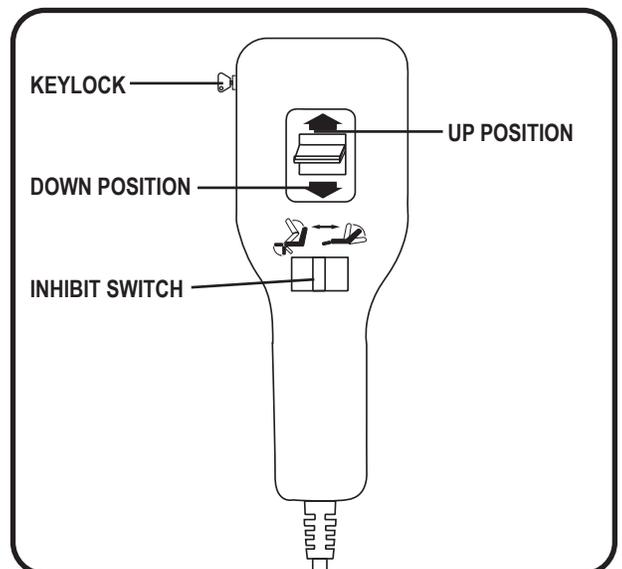

Figure 5.3 C6 Hand Control
#### Follow these steps to sit in your power lift recliner (Fig. 5.3):
#### Follow these steps to recline your power lift recliner from the seated position (Fig. 5.3):
**Follow these steps to raise or lower the footrest while in the seated or reclined position (Fig. 5.3):**
**Follow these steps to stand up from your power lift recliner from the seated position (Fig. 5.3):**